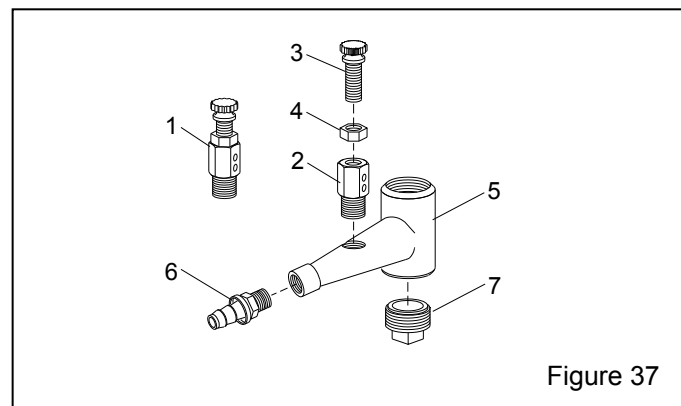

Figure 37
9.8 Metering Valve Assembly, Figure 37